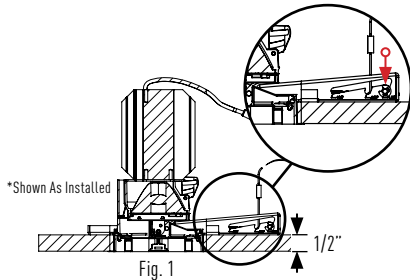

Fig. 1
- 1/2" setting for single 1/2" sheet rock or laminated MDF (Fig. 1) (Note: 1/2" minimum ceiling thickness)